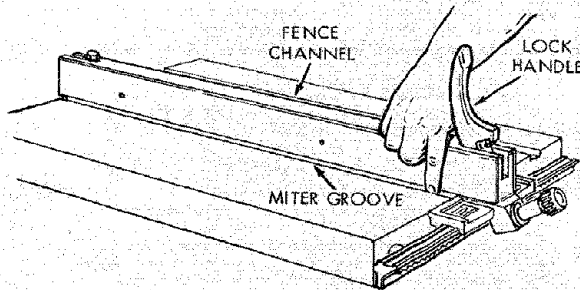
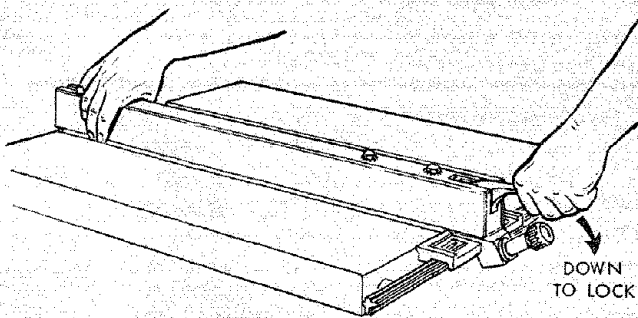
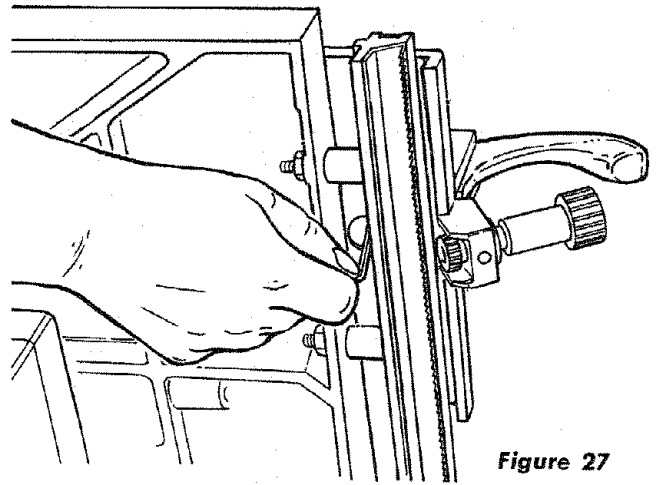

Figure 23
Figure 24
Figure 27
- (1) With the lock handle released (not latched), slide the fence on the saw table so the front end of the channel is flush with the side of one of the two miter grooves. (See figure 23.) This can be checked by using your fingers as shown to "feel" for correct alignment. Shift the rear of the fence to the right or left slightly, causing fence not to be square with the front edge of the table, nor parallel to the miter groove.
- (2) Push down on the lock handle carefully (do not force) while watching the rear of the fence for its correcting action.
- (3) The lock handle should lock in the down position. Do not force the handle, as it is not necessary for the handle to be all the way down to lock the fence. (See figure 24.) The rear of the fence should move to correct itself, and do so parallel (flush) with the miter groove in saw table throughout its full length. Alignment may be checked with the forefingers to determine if the fence is flush with the side of miter groove, as shown in figures 23 and 24.
- (4) If the lock handle responded as described above, and the fence aligned itself with the table groove at both ends, the fence is properly adjusted and no further attention is necessary. If not, perform the following adjustment routine.
- (3) Place the fence back on saw table and notice that the lock handle offers no resistance at any position.
- (4) Place the lock handle in "locked" position, and, using a 1/8-inch hex-L wrench inserted into the fence-pawl set screw from underneath the saw table, tighten the set screw finger tight. (See figure 27.) Do not use wrench or pliers — finger tight only.
- (5) Raise the lock handle, push the fence to one side (off square) at the rear. Then lock the fence with the lock handle, while watching to make sure it "corrects" itself. Repeat this operation two or more times. The fence should "correct" itself each time it is locked.
- (6) Raise the lock handle and align the fence with the miter groove (at the front end of the groove) as shown in figure 23. Push the lock handle down.